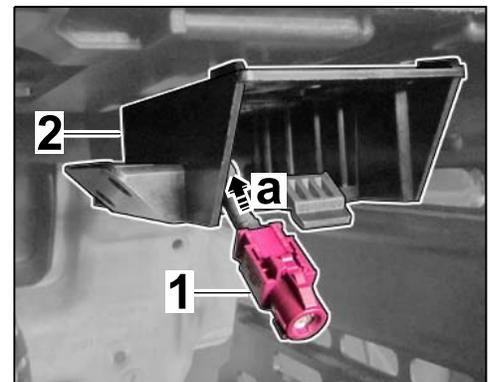

Figure 16
- 5.3.2 Pull back connecting line ⇒ *Figure 16-a-* until the violet connector ⇒ *Figure 16-1-* is at the USB/iPod control unit holder ⇒ *Figure 16-2-*.